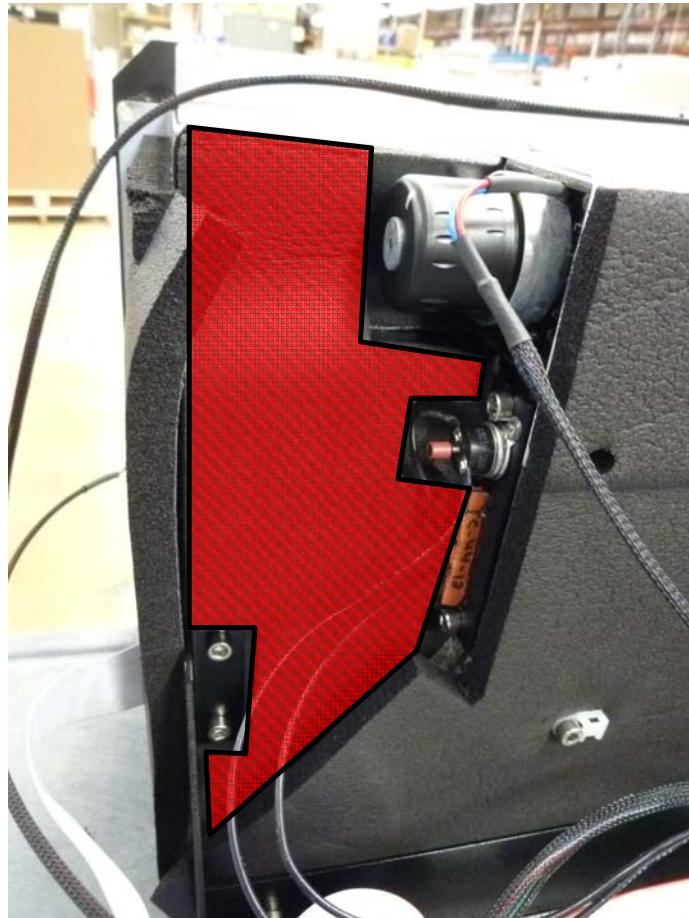

Figure 28
4. The insulation foam is blocking the path. Tear off that piece of foam to make room for the Heater Bar (**Figure 28**).